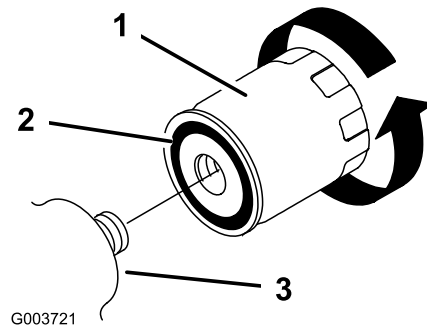

Figure 30
- Remove the old filter (Figure 30) and wipe the surface of the filter adapter gasket clean.
- Apply a thin coat hydraulic fluid to the rubber gasket on the replacement filter (Figure 30).
- Install the replacement hydraulic filter onto the filter adapter (Figure 30). Tighten it clockwise until the rubber gasket contacts the filter adapter, then tighten the filter an additional 1/2 turn.